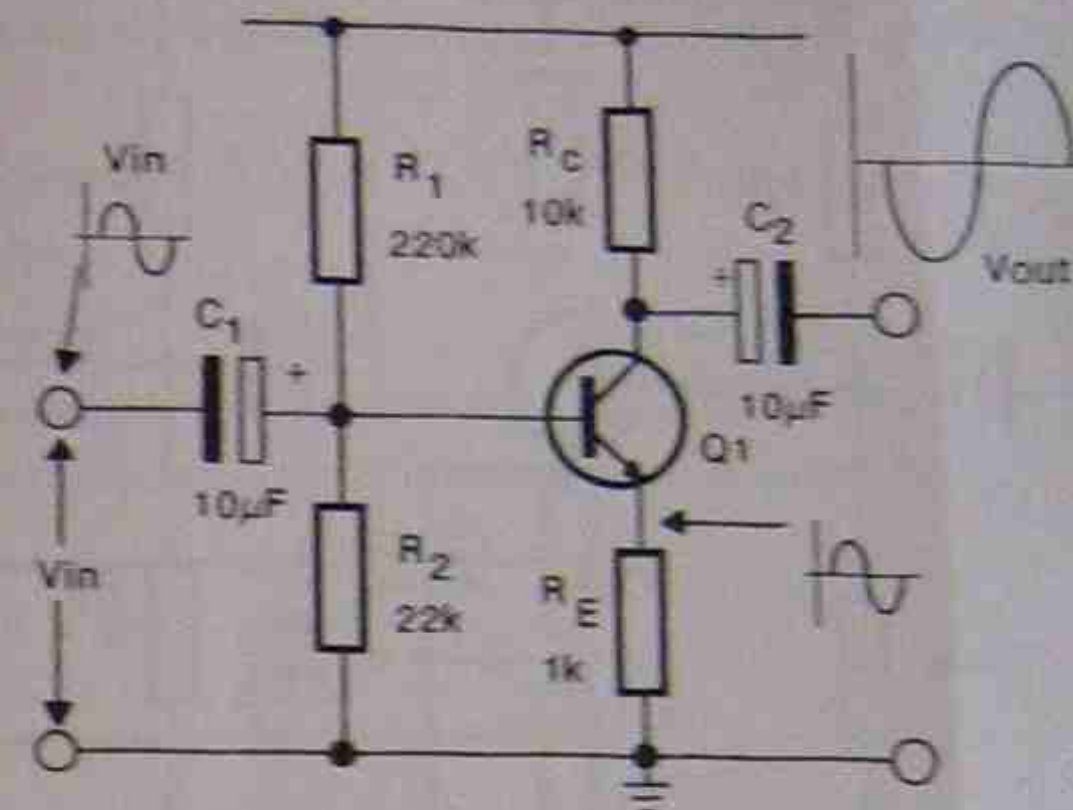

Fig.2: AC and DC feedback with an emitter resistor
As already described, if an emitter resistor is included in the circuit of a common emitter amplifier, as shown in Fig.2, the gain is reduced unless this resistor is bypassed with a suitable capacitor. This resistor produces negative feedback in the amplifier in which:
- This type of feedback is called current-derived feedback, because the emitter (which equals collector) current has produced the feedback signal. Because the emitter resistor is relatively large compared to r_e , the gain of Fig.2 is $(R_c)/R_E$.
As for Fig.2, the feedback is current derived and the summer is the base-emitter of Q_1 .